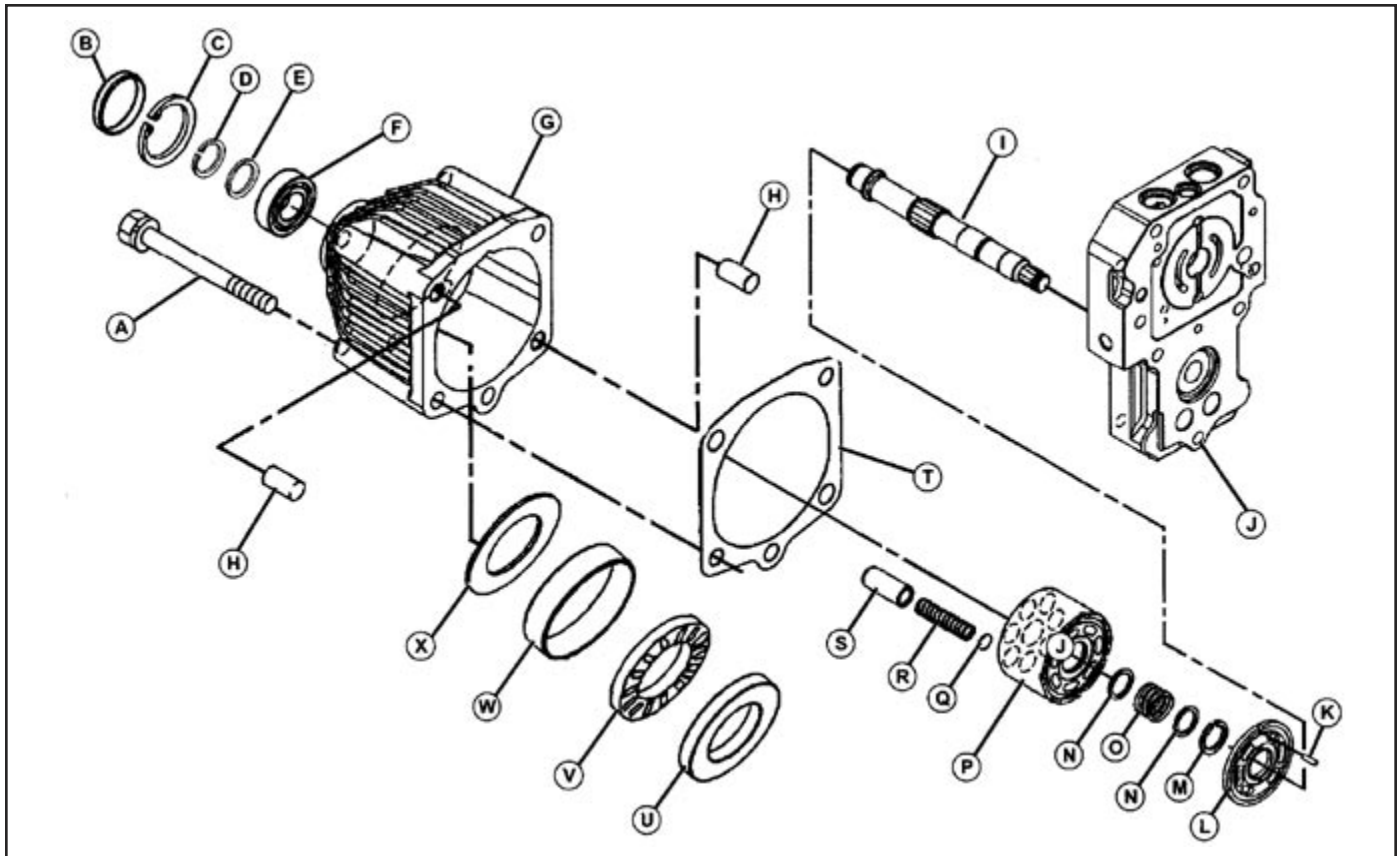

Fig. 55, Hydrostatic Transmission Motor Disassembly (2WD)
1. Remove two cap screws (A). (Fig. 55)
7. Thrust bearing (V) must rotate freely. (Fig. 55)
NOTE: Thin thrust plate (X), bushing (W) and motor case (G) must be replaced as a set. (Fig. 55)
9. Remove seal cap (B) and snap ring (C) to remove shaft assembly components.
10. Inspect bushing (W), thrust bearing (V) and shaft (I) for wear or damage. Replace if necessary. (Fig. 55)